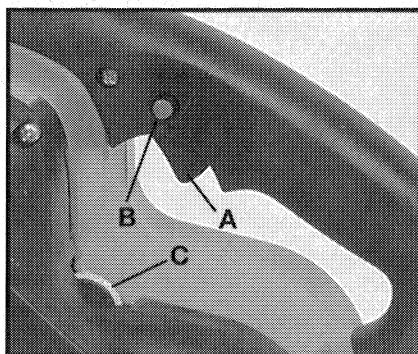

Fig. 2
2. Squeeze trigger switch (A) Fig. 2, to start motor. Release trigger to stop motor.
3. LOCK BUTTON – A lock button (B) is provided to keep motor running without holding the trigger switch ON.
Speed is adjusted by turning thumbwheel, (C) Fig. 2. Thumbwheel position #1 provides the slowest operating speed (850 SFM) and position #6 the fastest (1300 SFM). Speed may be changed while motor is running or while it is stopped.